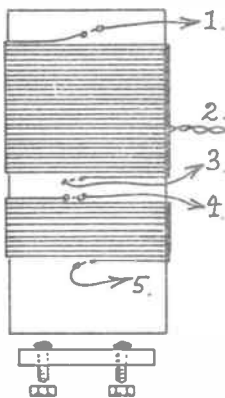

Fig. 2—Coil and mounting strip
This is shown in Fig. 2, the insulated tube being a push-fit on a strip of wood bolted or screwed to the chassis. With a tube 1½ins. in diameter, 80 turns of 32 S.W.G. wire can be used, from points 1 to 3, with the tapping 2 at about 50 turns from point 1. A ¼in. space is then left, and 50 turns are wound on between points 4 and 5. For this section, thinner wire (about 36 S.W.G.) may be used, if to hand.
The kaleidoscope illustrated in Fig. 2 consists of three pieces of glass, two, like the piece (A), inclined to each other at 45° and another piece (B), bound together at the edges with Sellotape. The bottom (C), consists of a piece of thick white card and the eyepiece (D) is a piece of cardboard with a small circular hole in the centre. The whole of the outside of the apparatus with the exception of the aperture (E) is painted with black paint or covered with dark paper.